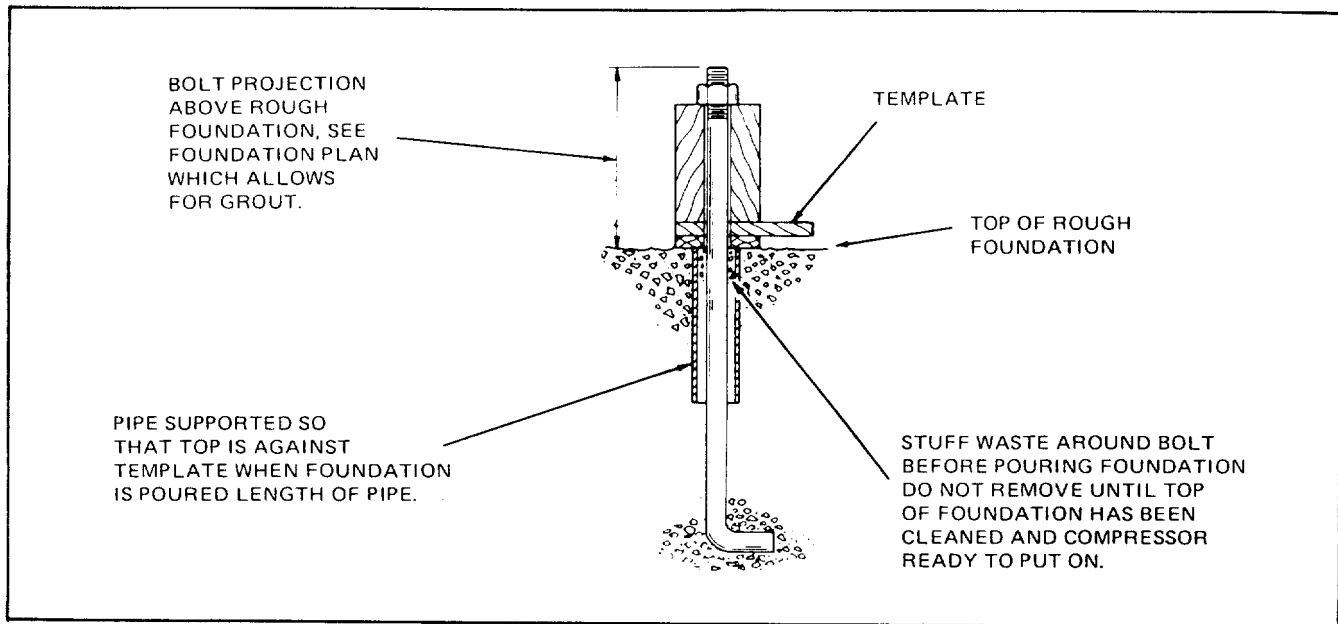

Figure 3. Method Used for Installing Foundation Bolts
2. Foundation Bolting (See Figure 3.)